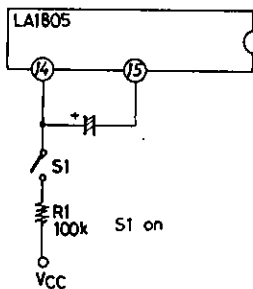

Fig.1 Forced Monaural Mode Setting Method
Figs.1 and 2 show how to cause the forced monaural mode to be entered.
- ① Connect pin 14 to VCC through a resistor of 100kΩ. (Turn ON the SW1 in Fig.1.)